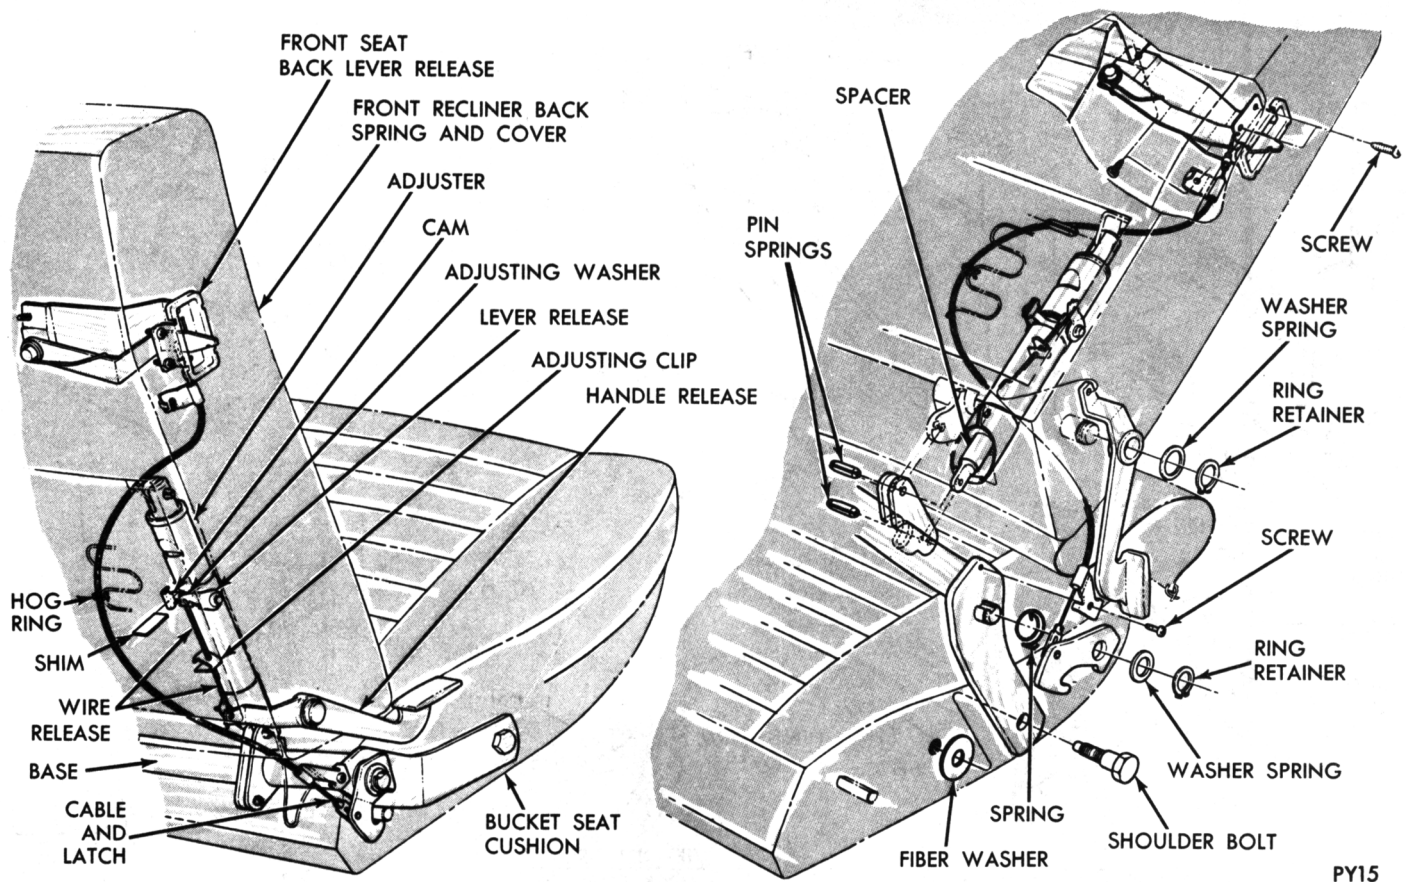

Fig. 26 - Reclining Seat - Bucket Type
BUCKET TYPE (Fig. 26).
(1) Before pad support, and cover are assembled, attach lever release to front recliner.
(2) Insert upper end of cable into hole in lever. Attach cable and latch to front spring and cover using screw.
(3) Install spacer on rod end of adjuster (Figure 26). (**Seat Cannot Be Assembled Without Spacer**).
(4) Insert adjuster into back of recliner with clevis end on bracket and rod end protruding